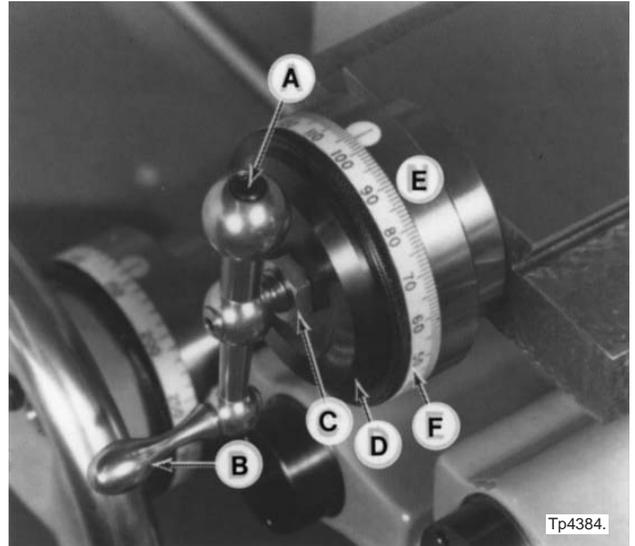
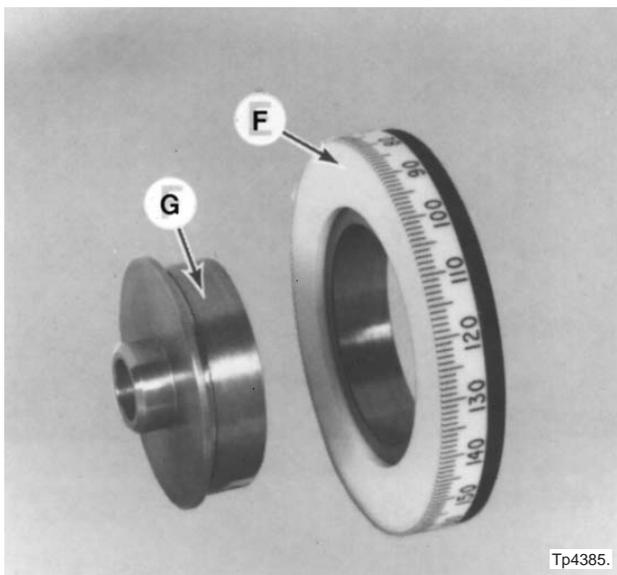
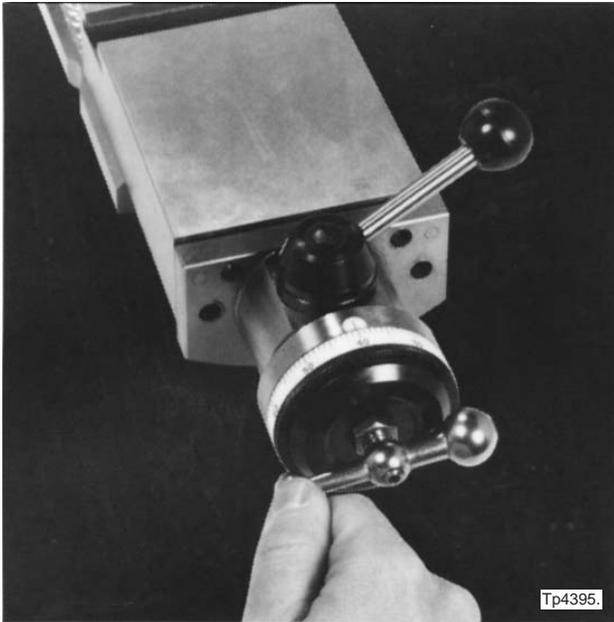

Figure 2.1 - Cross Slide Feed Screw Handle and Dial
Figure 2.2 - Dial and Bushing
Figure 2.13 - End Cap and Dial Assembly Removal
1. Loosen nut "C", Figure 2.1 .
7. Remove dial "F", and bushing "G", Figure 2.2.
5. Replace bushing "G", Figure 2.2, and dial "F", Figures 2.1 and 2.2 .
When replacing washer and screw assembly "D", Figure 2.1, be sure the nylon plug is in position under the lock screw.
6. Replace washer and screw assembly "D", Figure 2.1 .
The gap between zero ring "E" and dial "F", Figure 2.1, should be set at 0.002" [0.05mm] to 0.004" [0.1mm].
11. Check the gap between zero ring "E" and dial "F", Figure 2.1 . If the gap needs to be adjusted, proceed to step 11. If the gap is correct, this procedure is complete.
13. Adjust the gap between zero ring "E" and dial "F", Figure 2.1 .
4. Rotate cross slide handle "B", Figure 2.1, clockwise to feed the cross slide toward the rear of the machine until travel stops.
3. Start the cross slide onto the carriage dovetail and move it slowly into position while turning cross slide handle "B", Figure 2.1, counterclockwise until the feed screw engages the feed screw nut.
5. Turn handle "B", Figure 2.1, counterclockwise to remove the end cap and dial assembly from the slides, as shown in Figure 2.13 .